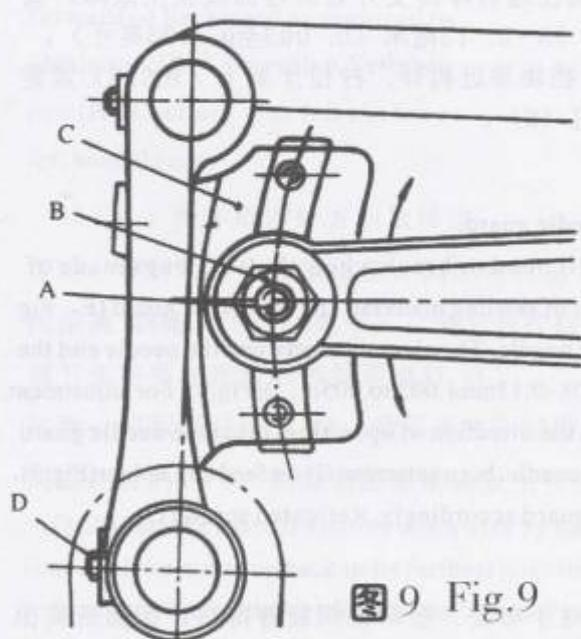

图9 Fig.9
送料牙在针板牙槽内的两侧面间隙不对称时, 拧松板牙架座(图9, C)两只螺钉(D), 左右移动牙架座至要求位置后再拧紧螺钉(D)。
If feed dog are not in the center in the throat plate slots, Loosen screws rear in the feed locker (C, Fig. 9), move the feed locker right or left as required. Then retighten screws (D).
针距长短的调节, 是通过牙架座(图9, C)扇形槽中的针距调节螺钉(A)的上下移动来实现的。下降螺钉(A)使针距加大, 升高则缩短针距。调节时拧松螺母(B)、上下移动螺钉(A)至需要的针距后再固紧螺母(B)。(自动型式的机器需卸下罩壳时再调节)
The length of the stitch can be adjusted by raising or lowering the stud(A) in the segment slot of the feed locker (C, Fig. 9). Lowering the stud will shorten the stitch shorter. loosening nut(B), Stud(A) can be moved accordingly. When the desired stitch length is obtained, Retighten nut(B). (For automatic style machines the cloth plate should be removed to adjust)